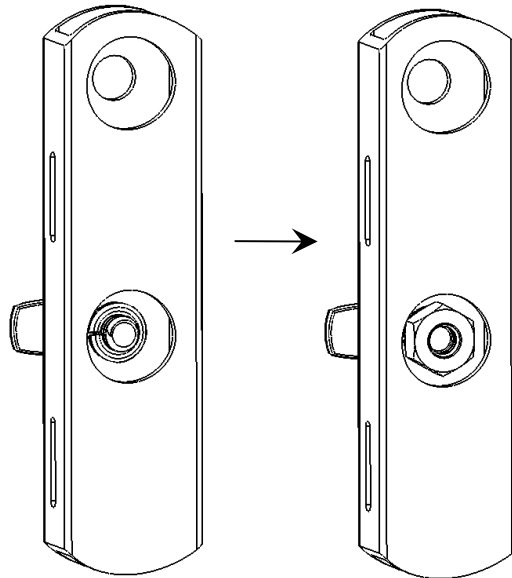

Figure 3
- D. Place the stud into the lower round hole on the back side of the bracket. Install the ¼" split washer over the stud. Install the ¼" nut on to the stud but only engage one or two threads for now. A non-permanent thread locking compound may be used on the threads in addition to the split washer for additional durability. This is depicted in Figure 3.